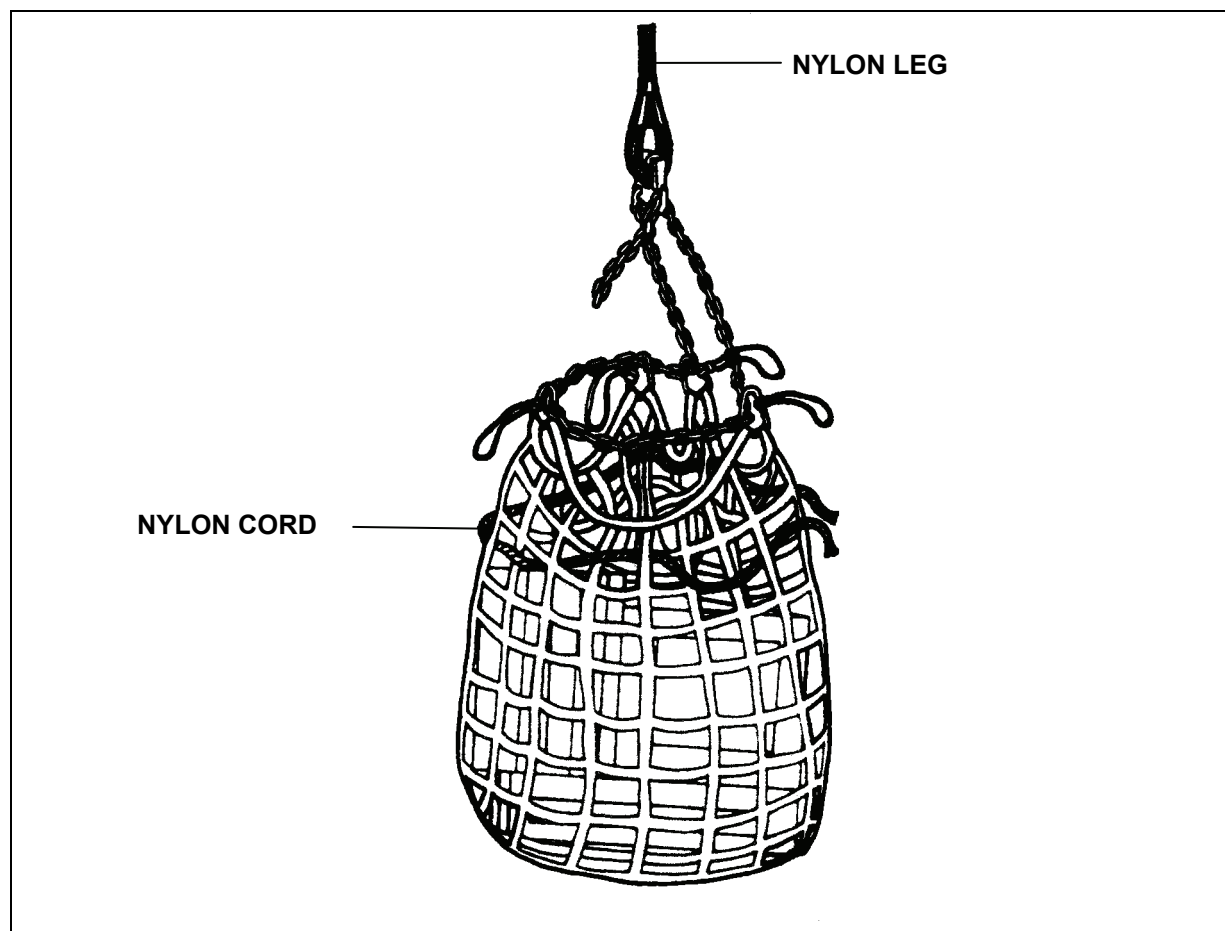

Figure 7-2. Rigged Loaded Net
- Tie the net around the top of the cargo with nylon cord (Figure 7-2) or other material by routing the cord through the net mesh. Tighten and secure the cord to prevent the net from hanging loose and cargo falling out.